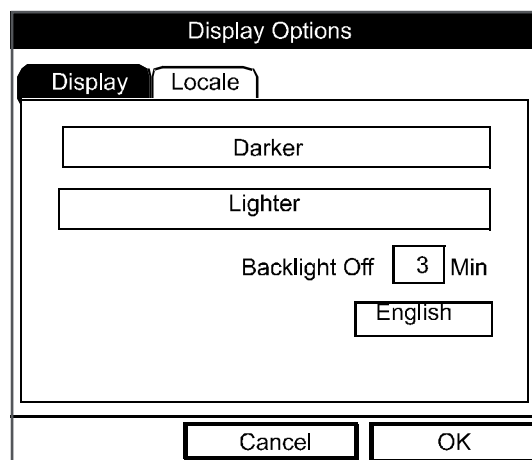

Figure 107: Display Tab in the Display Options Window
1. From the Meter menu, scroll to the Contrast entry and press **[ENTER]**. The Display Options window opens on the Display tab, as shown in *Figure 107*. (From the Format tab, press the [◀] key to move to the Display tab.) To step through each parameter, press the [▼] key.
1. From the Meter menu, scroll to the Backlight entry and press **[ENTER]**. The Display Options window opens on the Display tab, as shown in *Figure 107*.
- To confirm the entries and return to Operate mode, press **[F3]** (OK).